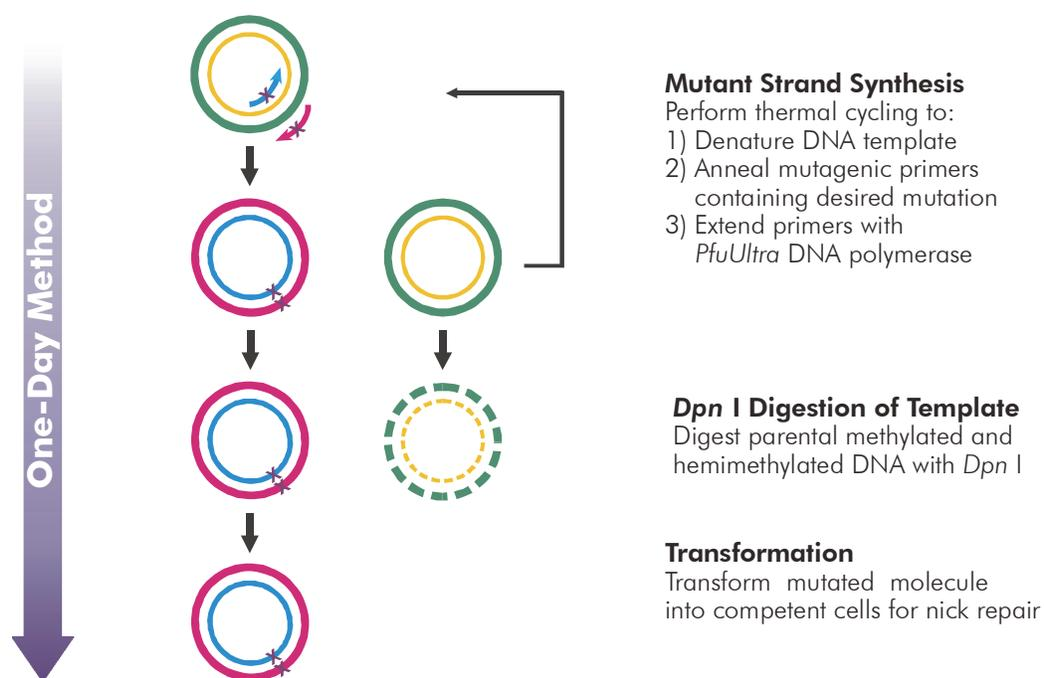

FIGURE 1 Overview of the QuikChange II site-directed mutagenesis method.
In vitro site-directed mutagenesis is an invaluable technique for characterizing the dynamic, complex relationships between protein structure and function, for studying gene expression elements, and for carrying out vector modification. Several approaches to this technique have been published, but these methods generally require single-stranded DNA (ssDNA) as the template¹⁻⁴ and are labor intensive or technically difficult. Our QuikChange II Site-Directed Mutagenesis Kit* allows site-specific mutation in virtually any double-stranded plasmid, thus eliminating the need for subcloning and for ssDNA rescue.⁵ In addition, the QuikChange II site-directed mutagenesis kit does not require specialized vectors, unique restriction sites, multiple transformations or in vitro methylation treatment steps. The rapid three-step procedure generates mutants with greater than 80% efficiency in a single reaction (see Figure 1). The protocol is simple and uses either miniprep plasmid DNA or cesium-chloride-purified DNA. For long (~8 kb) or difficult targets, we offer the QuikChange II XL Site Directed Mutagenesis Kits (Catalog #200521 and #200522).
The QuikChange II site-directed mutagenesis kit is used to make point mutations, replace amino acids, and delete or insert single or multiple adjacent amino acids. The QuikChange II site-directed mutagenesis method is performed using *PfuUltra* high-fidelity (HF) DNA polymerase** for mutagenic primer-directed replication of both plasmid strands with the highest fidelity.[¶] The basic procedure utilizes a supercoiled double-stranded DNA (dsDNA) vector with an insert of interest and two synthetic oligonucleotide primers, both containing the desired mutation (see Figure 1). The oligonucleotide primers, each complementary to opposite strands of the vector, are extended during temperature cycling by *PfuUltra* HF DNA polymerase, without primer displacement. Extension of the oligonucleotide primers generates a mutated plasmid containing staggered nicks. Following temperature cycling, the product is treated with *Dpn* I. The *Dpn* I endonuclease (target sequence: 5'-Gm⁶ATC-3') is specific for methylated and hemimethylated DNA and is used to digest the parental DNA template and to select for mutation-containing synthesized DNA.⁶ (DNA isolated from almost all *E. coli* strains is *dam* methylated and therefore susceptible to *Dpn* I digestion.) The nicked vector DNA containing the desired mutations is then transformed into XL1-Blue supercompetent cells.